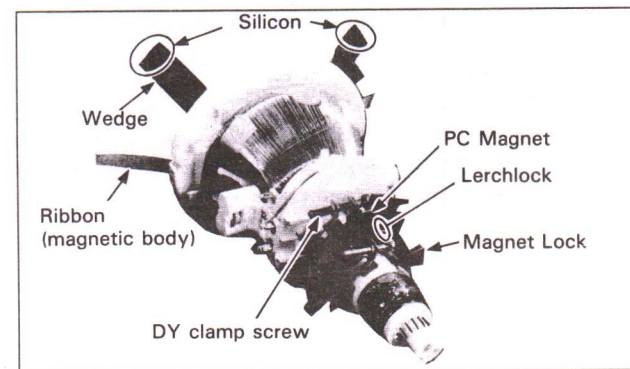

Fig. 10
3. Coat the PC magnet with lerchlock (**Fig. 10**)
4. Coat silicon on the three wedges. (**Fig. 10**)